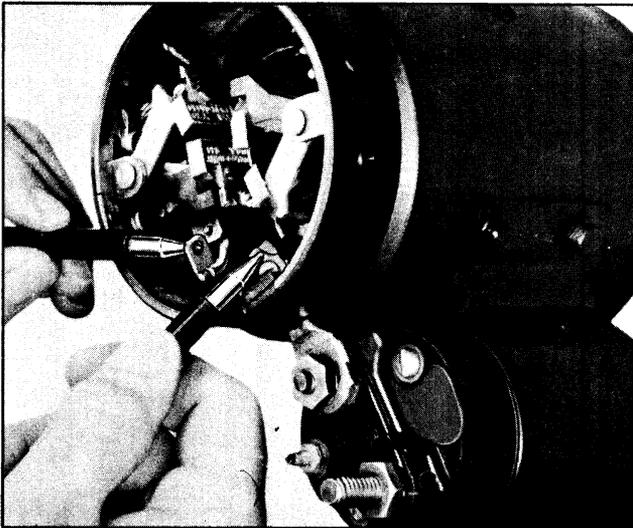

Fig. 13-30 Checking Shunt Coil for Ground
- e. Using a 110-volt test lamp, place one lead on each end of the shunt coil. (See Fig. 13-30) Disconnect the shunt coil ground before this check is made. If the lamp does not light, the shunt coil is open and will require replacement.